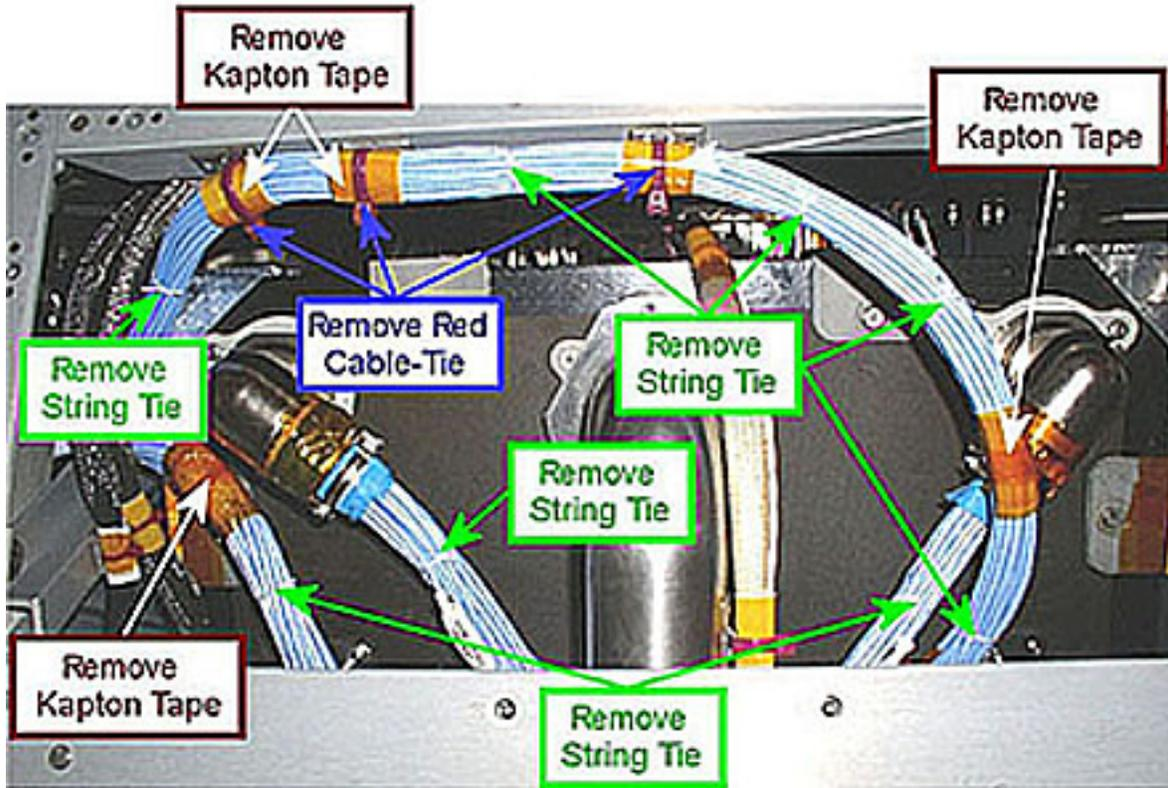

Figure 2. HMU306 and HMU307 Bundles
- Red Cable-Ties (three) on HMU307, as shown in Figure 2 → Remove (Wire Cutter)
- String Ties on HMU307 as shown in Figure 2 → Remove (Wire Cutter)
- Kapton Tapes (five) as shown in Figure 2 → Peel off (by hand)
- String Ties on HMU306, as shown in Figure 2 → Remove (Wire Cutter)
- Take a picture of FSL rear zones shown in Figures 2 and 3 after completion of Umbilicals reconfiguration.